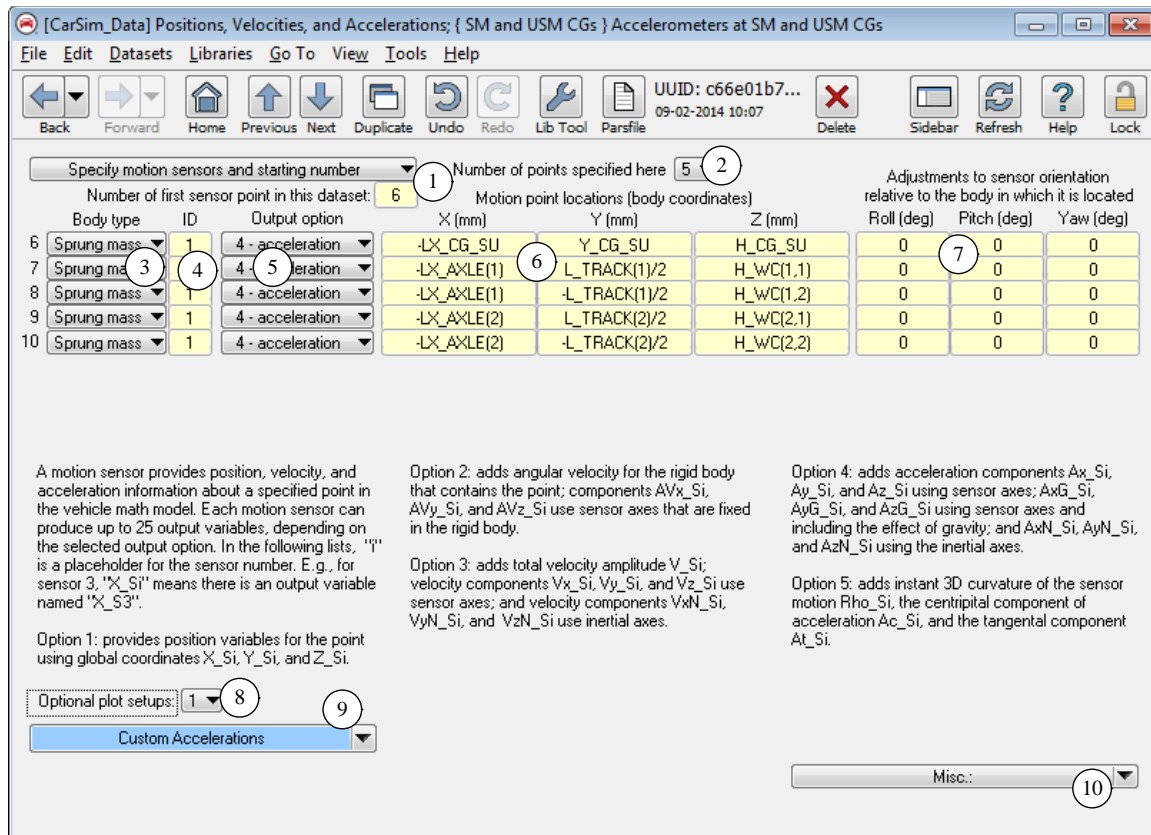

Figure 5. The Positions, Velocities, and Accelerations screen.
The VS Solver initially has zero motion sensors. The easiest way to add position, velocity, or acceleration outputs is with the **Positions, Velocities, and Accelerations** screen (Figure 5). This screen generates commands to the VS Solver to add output variables for points of interest.
When choosing the numbering option for the sensors via the drop-down control ① (Figure 5), both of the first two options are valid for either the first encounter (when the sensors are added to the model) or for later links where the sensors already exist. The third option will always add new sensors and therefore should never be used when the intent is to change properties of existing sensors.
where  $\mathbf{p}_s$  is the vector connecting the origin of the global coordinate system to the sensor point,  $\mathbf{p}_o$  is the vector connecting the origin of the global coordinate system to the origin of the vehicle part (e.g., the sprung mass origin), and  $\mathbf{p}_{s\_rel}$  is a relative vector connecting the origin of the vehicle part to the sensor point. The relative vector  $\mathbf{p}_{s\_rel}$  is defined using the values specified on the screen ⑥ (Figure 5) that use the axis system of the vehicle component (e.g., sprung mass):